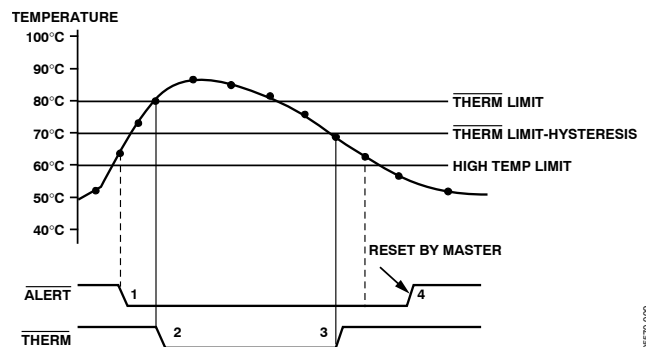

Figure 20. Operation of the **ALERT** and **THERM** Outputs
Figure 20 shows how the **THERM** and **ALERT** outputs operate. The **ALERT** output can be used as an **SMBALERT** to signal to the host via the **SMBus** that the temperature has risen. If the temperature continues to increase, the **THERM** output can be used to turn on a fan to cool the system. This method ensures that there is a fail-safe mechanism to cool the system, without the need for host intervention.
- The  $\overline{\text{THERM}}$  output deasserts (goes high) when the temperature falls to  $\overline{\text{THERM}}$  limit minus hysteresis. In Figure 20, the default hysteresis value of 10°C is shown.